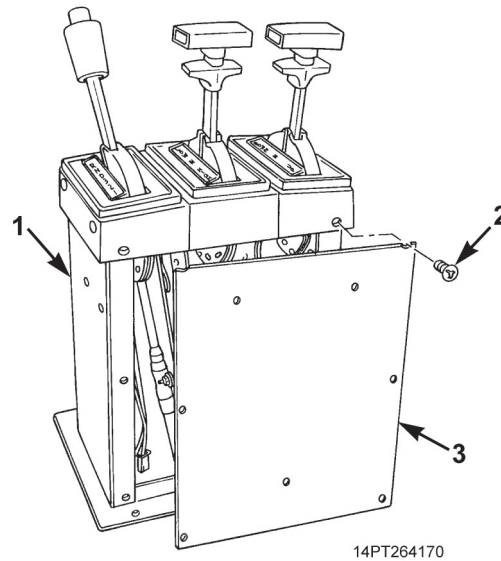

Figure 12. Shift Tower Cover Installation.
23. Remove two top and two bottom screws (Figure 12, Item 2) from front and rear of shift tower (Figure 12, Item 1).
24. Install six screws (Figure 12, Item 2) and rear access panel (Figure 12, Item 3).